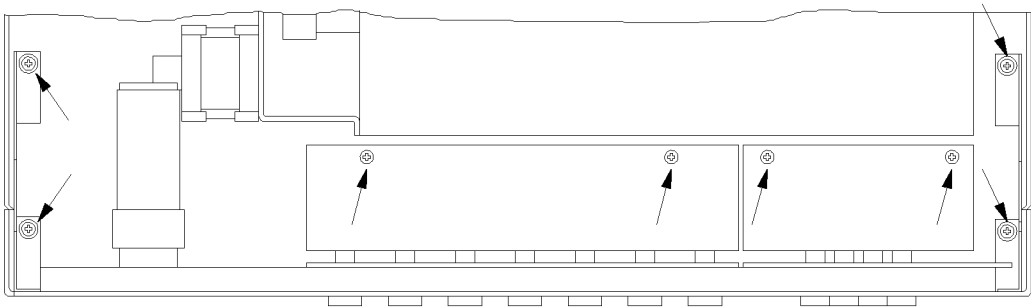

Figure 3-3. Top view with front cover removed
- C. Figure 3-3 represents a top view of the detector with the detector top cover removed. Remove the eight screws indicated in the figure. Carefully pull the front panel assembly forward to gain easy access to the front panel components. It will probably be more convenient to disconnect the flush valve wires from the VALVE LAMP terminal block.